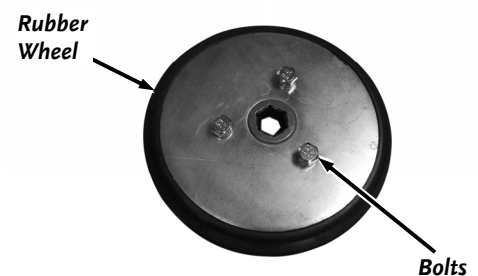

Figure 76
18. Use a 10mm Wrench to remove the three Bolts that secure the Rubber Wheel to the Shift Bearing Assembly and remove the Wheel (**Figure 76**).
1. Install the new Rubber Wheel onto the Shift Bearing Assembly in the orientation shown (**Figure 76**).